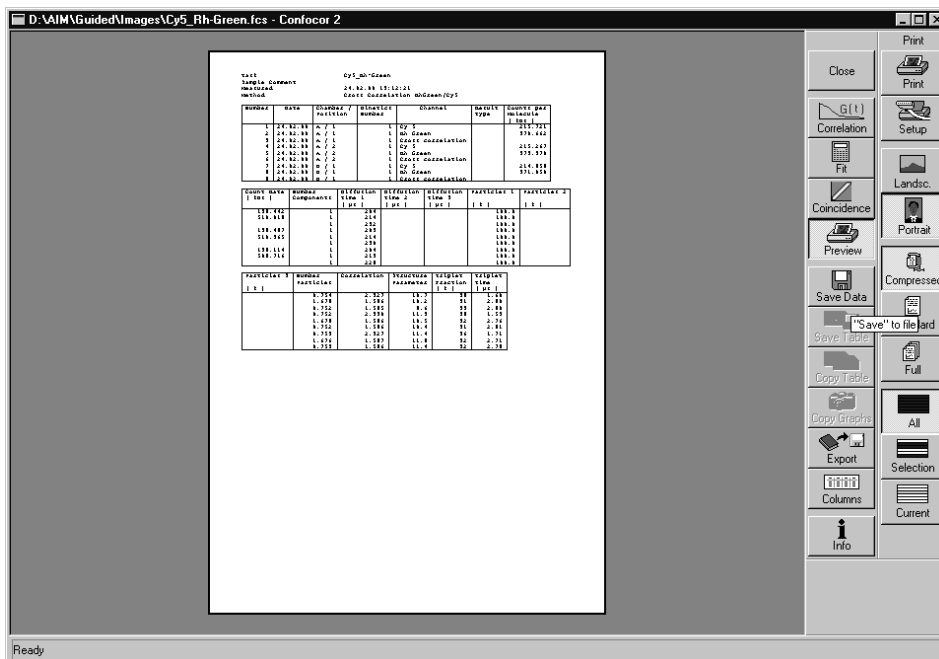

Fig. 5-386 Preview / Print window
- A print preview and the additional **Print** subordinate toolbar will appear on the screen (Fig. 5-386).